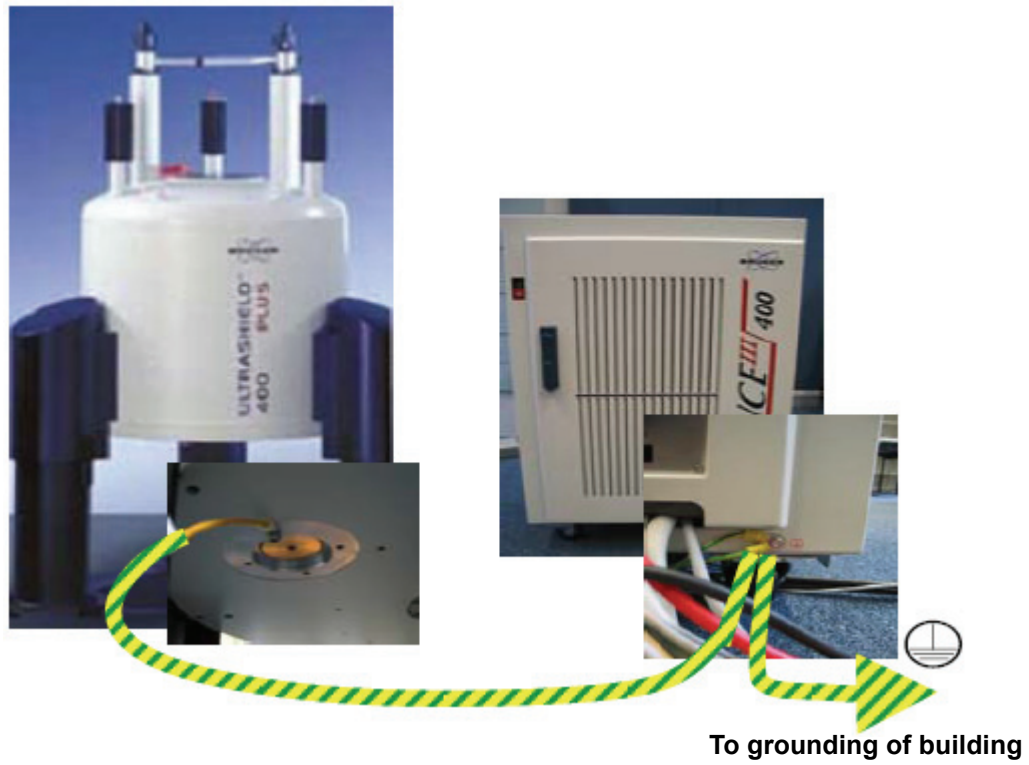
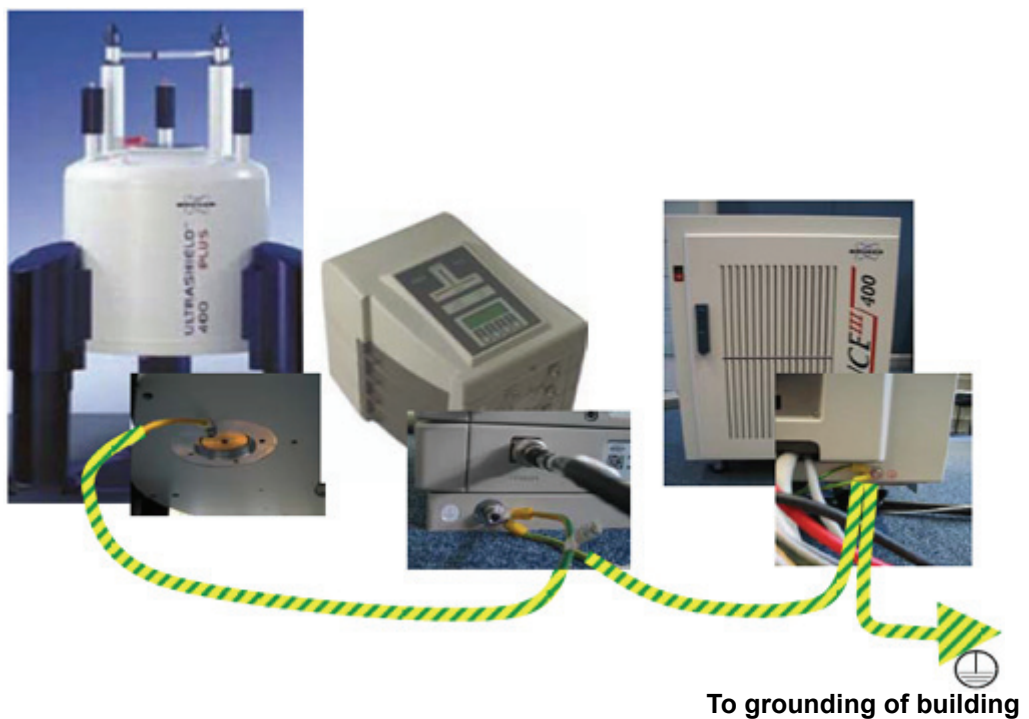

Figure 3.1 AVANCE Spectrometer with Internal Preamp
Figure 3.2 AVANCE Spectrometer with External Preamp (HPPR/2)
- When an external preamplifier (HPPR/2) is used, a cable has to be connected from the central grounding point of the spectrometer to the grounding point of the external preamplifier base plate (Figure 3.2).
- A cable must be connected from the magnet grounding point to the grounding point of the spectrometer (Figure 3.1), or if an external preamplifier is used, to the grounding point of the external preamplifier (Figure 3.2).